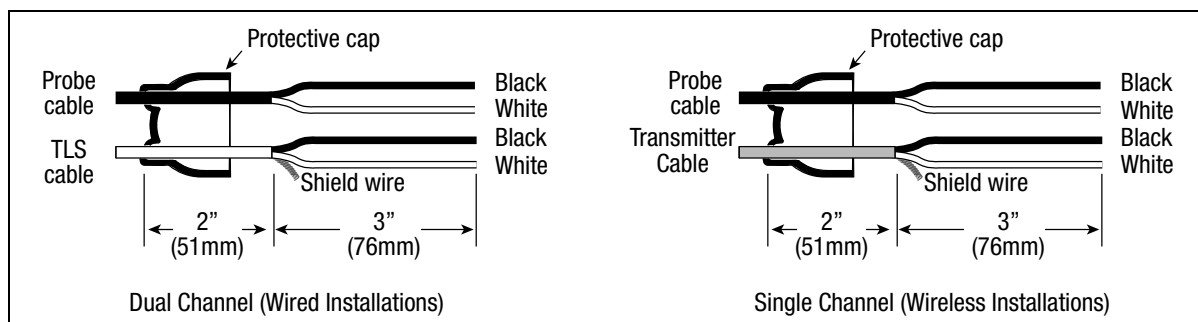

Figure 6. Splice Length Dimensions
1. Cut the soft vinyl epoxy enclosure end cap entrance holes of the Encapsulation Kit enclosure to accommodate each cable diameter. Keep the hole sizes to a minimum. Insert about 5 inches (127mm) of each cable through the openings [Figure 6]. Remove 3 inches (76mm) of the outer jacket from each cable. Trim the insulation from the conductors.